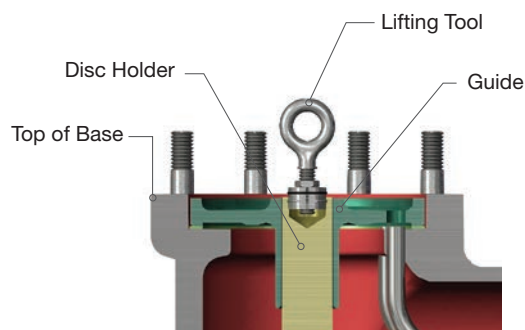

Figure 16: Lifting Tools for M through U Orifice Valves
- Use a screwdriver to compress the spindle retainer (16).
- Remove the spindle (15).
- Insert the lifting tool (see Figure 16) into the disc holder spindle pocket and tighten the eyebolt.
- Remove the disc holder (8) and disc (6) by lifting up on the lifting tool.
- Use the lifting lugs to lift the disc holder (8) and to remove all internals (see Figure 16).